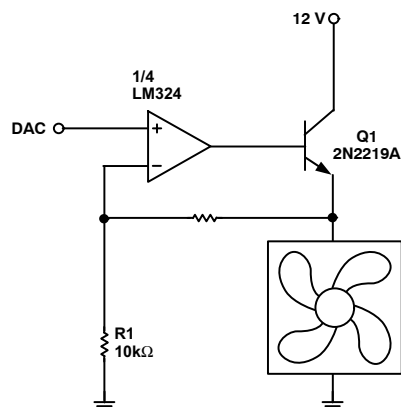
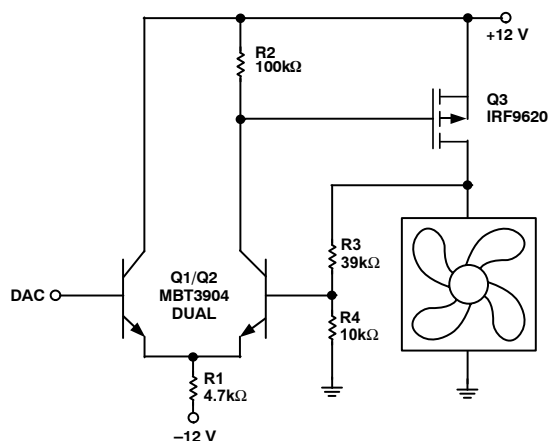

Figure 35. Fan Drive Circuit with Op Amp and Emitter-Follower
Figure 39. Discrete Fan Drive Circuit with P-Channel MOSFET, Dual Supply
Suitable fan drive circuits are shown in Figure 35 through Figure 39. When using any of these circuits, note the following:
- All of these circuits provide an output range from 0 V to almost $+12 \text{ V}$, apart from Figure 35, which loses the base-emitter voltage drop of Q1 due to the emitter-follower configuration.